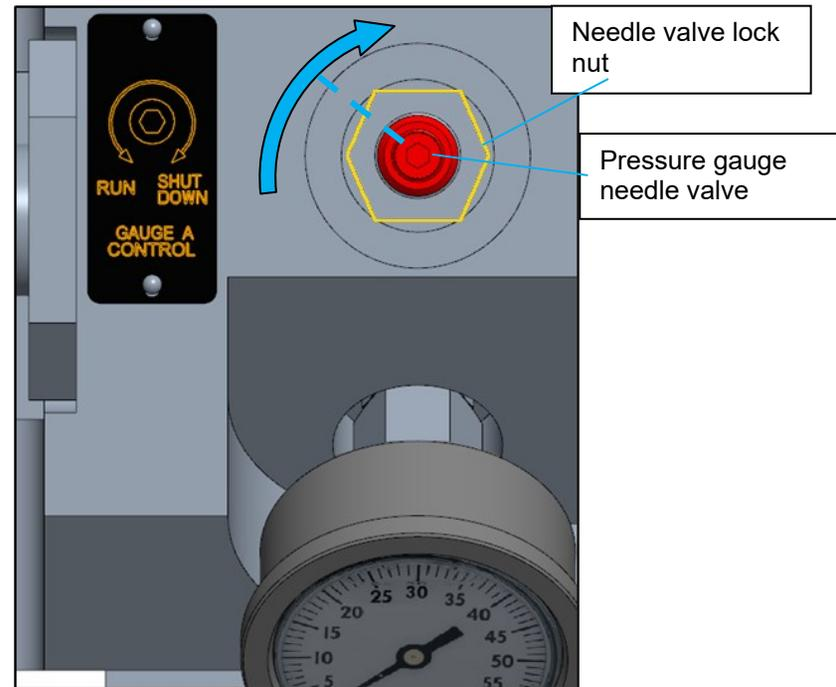

Figure 5-1. Needle Valve Closing
1. Loosen the needle valve adjuster locking nut using **13/16 in** wrench. Using **3/16 in** hex key, close the needle valve located on top of housing, turning clockwise. (Figure 5-1).